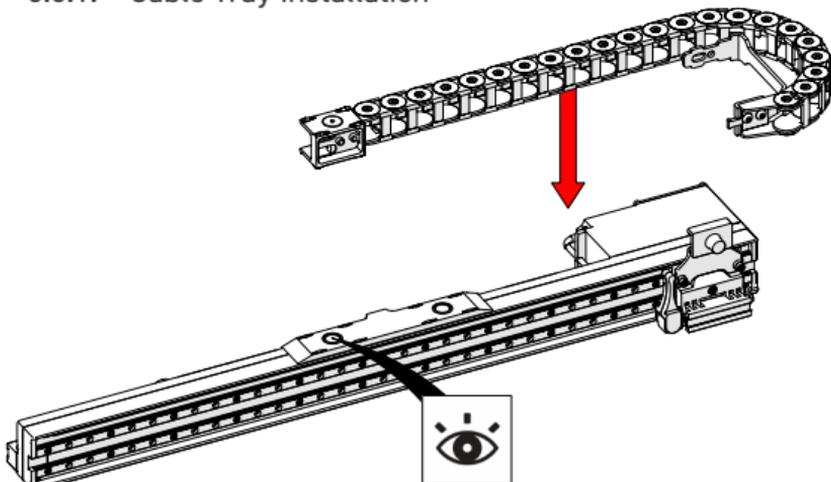

Fig. 58 - Attaching the cable tray
1. Attach the cable tray's magnetic end to the magnetic base on the raster arm. Ensure the four nubs are aligned with divots on the magnetic end (Fig. 58).